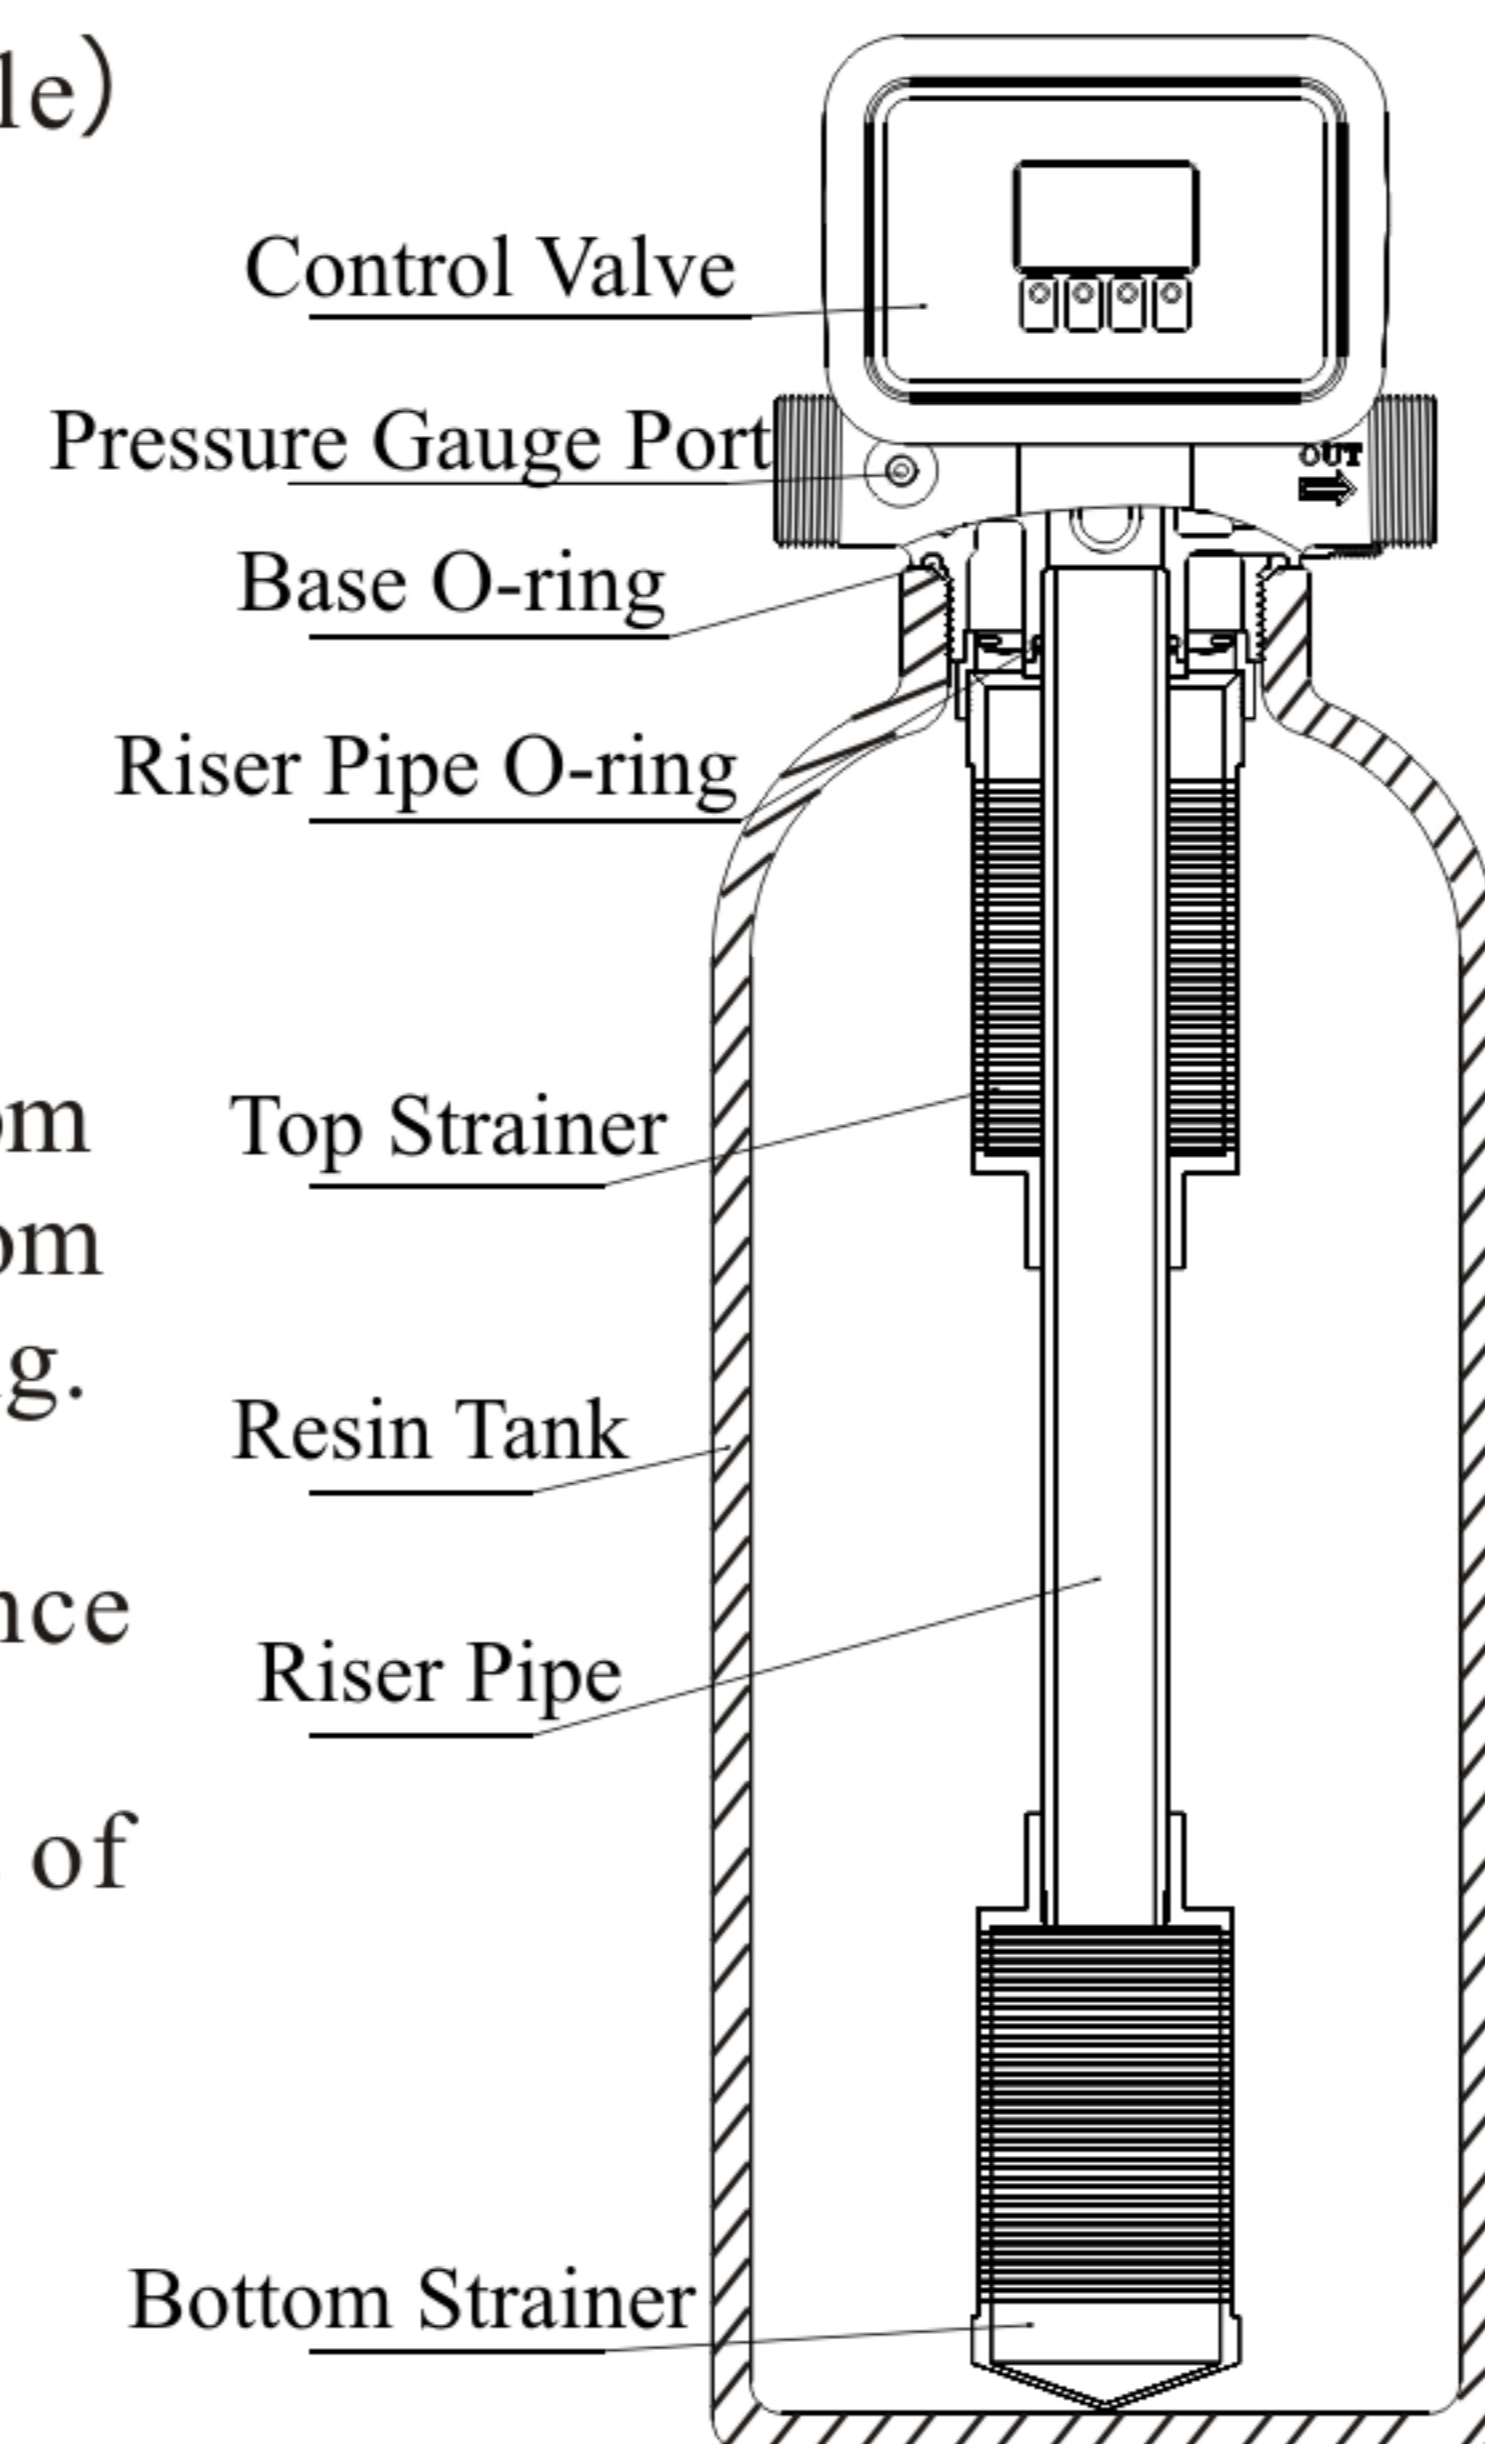

Figure 1-1
- ①The filter or softener should be located close to drain.
- ②Ensure the unit is installed in enough space for operating and maintenance.
- ③Brine tank need to be close to softener.
- ④The unit should be kept away from the heater, and not be exposed outdoor. Sunshine or rain will cause the system damage.
- ⑤Please avoid installing the system in one acid/alkaline, magnetic or strong vibration circumstance, because above factors will cause the system disorder.
- ⑥Do not install the filter or softener, drain pipeline in circumstance which temperature may drop below 5°C, or above 50°C.
- ⑦Install the system in the place where with the minimum loss in case of water leaking.
① Install control valve
- b. As the Figure 1-1 shows, insert the riser pipe to the bottom strainer, glue the connection part, and put it into the bottom tank, cut off the exceeding pipe out of tank top opening. Plug the riser pipe in case of mineral entering.